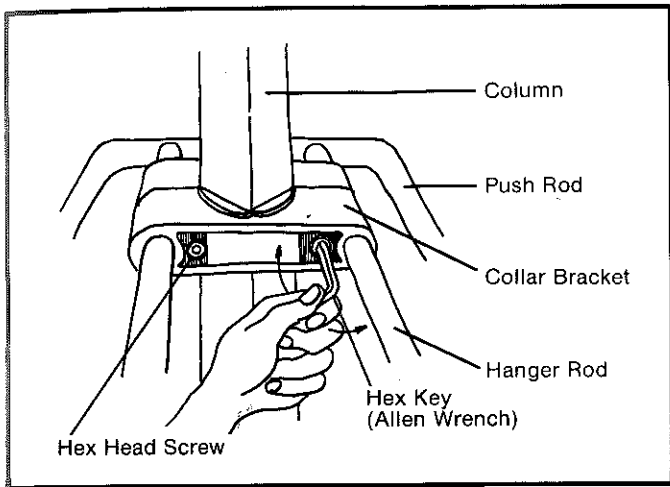

Figure 2-4
7. Adjust collar bracket height to provide desired stretcher location, if location other than as shipped is required. A 5/16" Allen® wrench will be required. Loosen hex head screws, Figure 2-4, and slide height adjustment collar on column until desired position is reached; tighten screws securely. Check height by running lift to its upper and lower-most positions before proceeding. If the bottom of the stretcher hits the bottom of the tank or tub, adjust position so bottom of stretcher is at least 1" above bottom of tank at its lowest position.